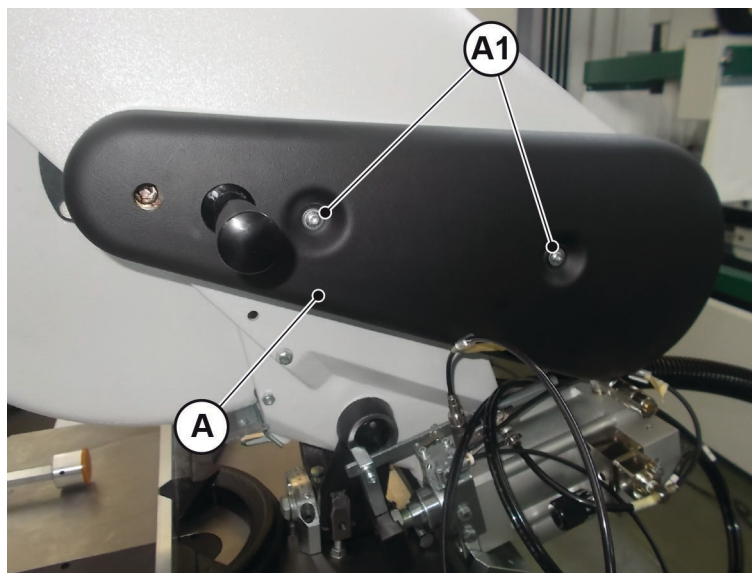

Fig. 09-11
- Remove the casing "A" (Fig. 09-11) by unfastening the two locking screws "A1" (Fig. 09-11).
- Fit and fasten the guard casing “A” (Fig. 09-11).